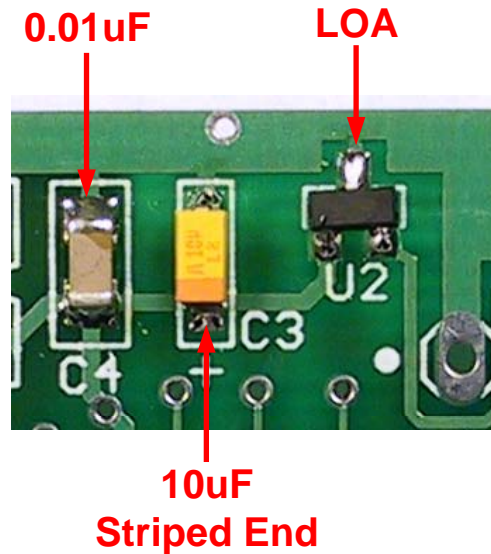

Figure 12. U2, C3, C4 Locations
- ❑ Remove U2, LM3480-3.3 from Bag 2. This IC is marked LOA. Install it at U2, as shown in **Figure 12**.
- ❑ Remove C3, 10uF tantalum capacitor, from Bag 1. It is marked either 106 or 10u. Refer to **Figure 12** for placement and install it at C3. Make sure the striped end is closest to the silkscreened “+” sign.
- ❑ Remove C4, 0.01uF, from Bag 1. This part is unmarked. Refer to **Figure 12** and install it at C4.